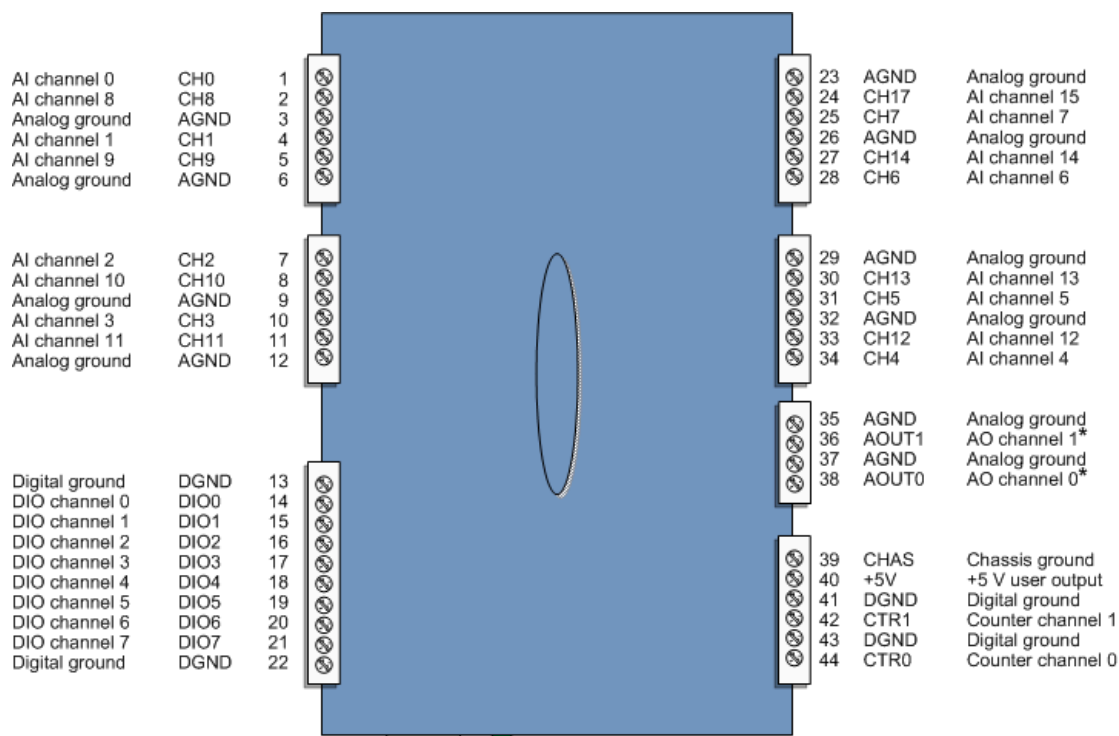
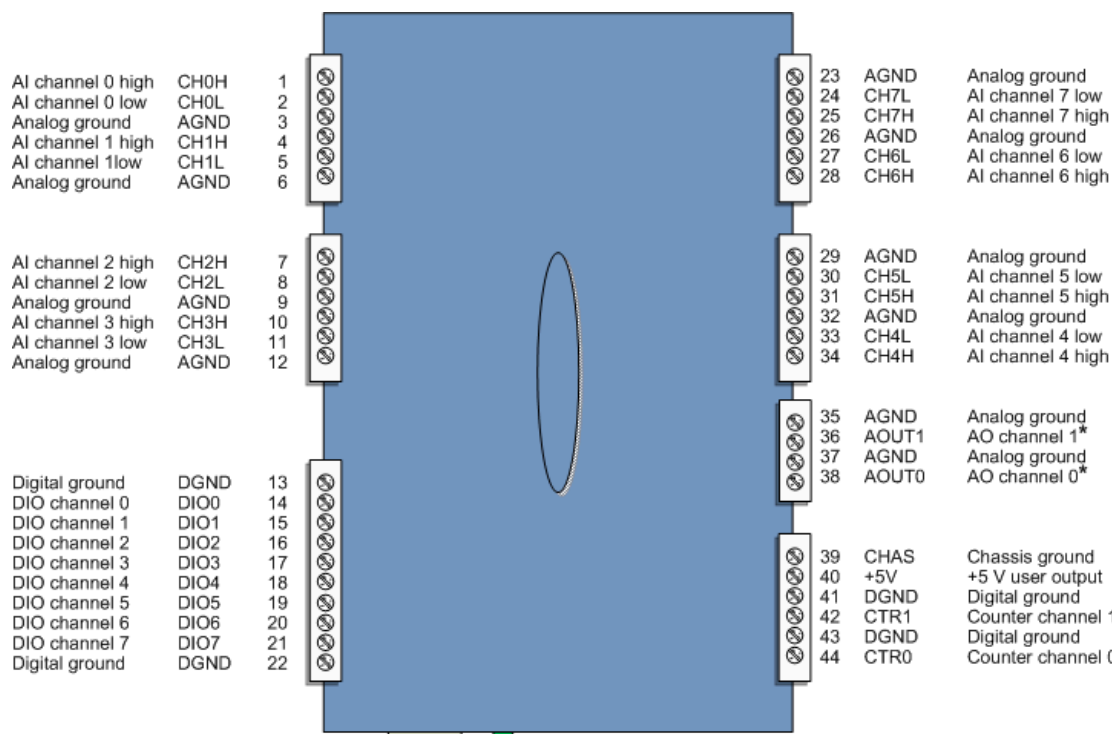

Figure 4. SE mode pin out
Figure 5. DIFF mode pin out
USB-2408 Series devices have two banks of screw terminals. Screw terminal functions for DIFF and SE modes are identified in Figure 5 and Figure 4.
- 16 SE (**CH0** to **CH15** – see Figure 4) or eight DIFF (**CH0H/CH0L** to **CH7H/CH7L**) analog input connections
Refer to Figure 4 on page 12 for the location of the SE inputs.
Refer to Figure 5 on page 13 for the location of the DIFF inputs.